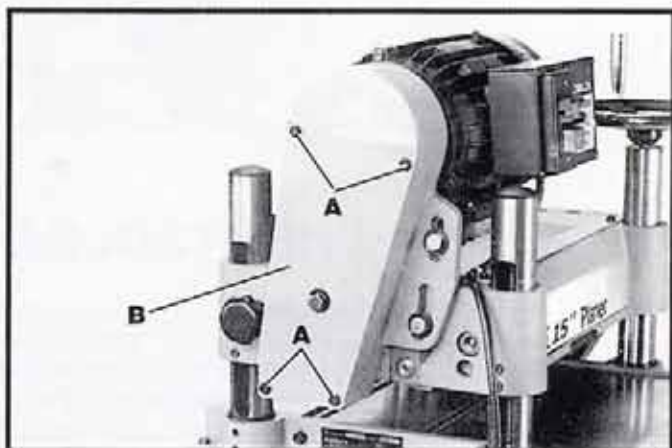

Fig. 24
2. Remove four screws (A) Fig. 24, and remove the belt and pulley guard cover (B).